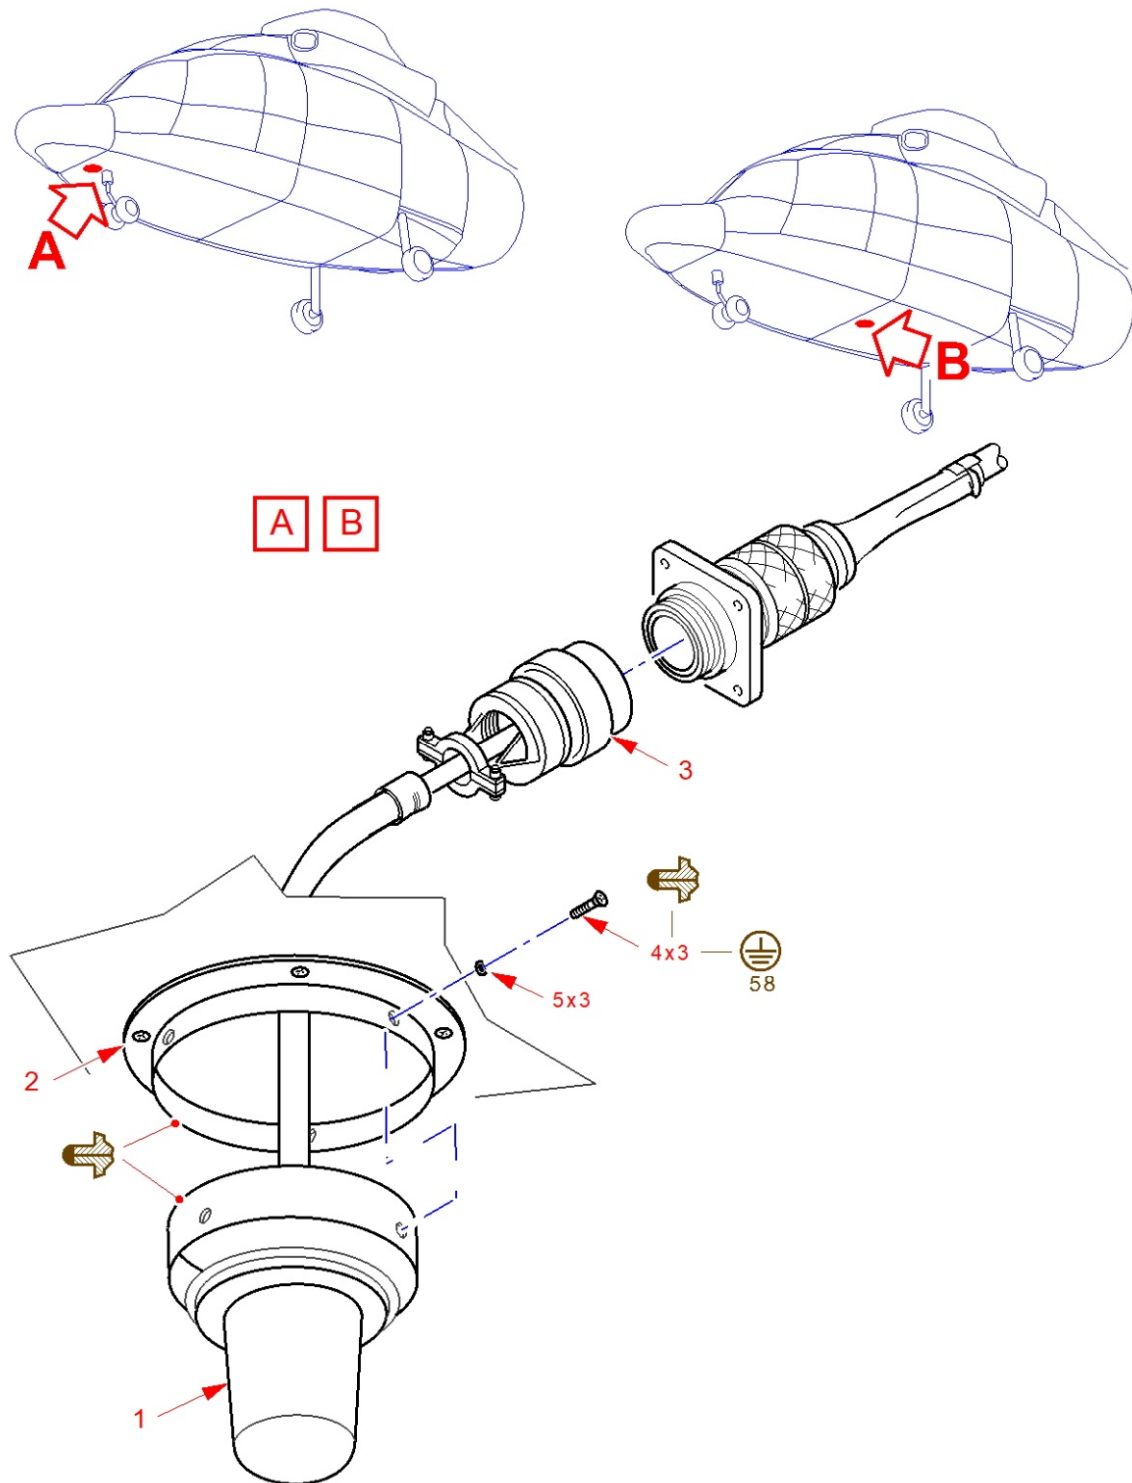

Figure 2 – Removal / Installation – Strobe Light
1. Remove the strobe light (1, Figure 2) as follows:
- a. Use a scrapper to remove the sealant bead around the strobe light (1) and its mount (2).
- b. Remove the sealant from the bolts (4).
- c. Remove the bolts (4) and the washers (5).
- d. Carefully disengage the strobe light (1) until you have access to the electrical connector (3).
- e. Disconnect the electrical connector (3).
- f. Remove the strobe light (1).
- g. If necessary, install a protective cover in the connector (3)
- h. Clean the remaining sealant bead on the mount (2) and on the strobe light (1) (MTC-20-05-01-101)
2. Install the strobe light (1, Figure 2) as follows:
- d. Connect the electrical connector (3).
- e. Put the strobe light (1) into position.
- f. Attached the strobe light to its mount (2) with the washers (5) the bolts (4).
- g. Tighten the bolts (4).
- h. Protect the bolts (4) with sealing compound (CM 6240).
- j. Apply a bead of the sealing compound ASNA4167BF20 between the anti-collision light (1) and its mount (2).